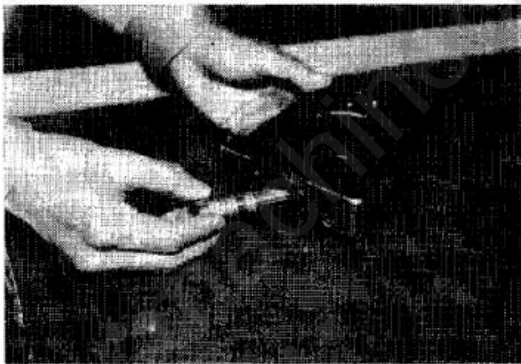

Fig. 25
2. Attach the sleeve (651) to the casing (601). Set the feedback lever (611) so that the pin (897) of the feedback lever inserts into the hole of the sleeve. Tighten the fulcrum plug (614). (Fig. 25, 26, and 27)